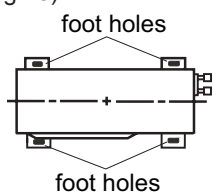

Fig.18
2. Fix the foot holes of outdoor unit with bolts.(As show in Fig.18)